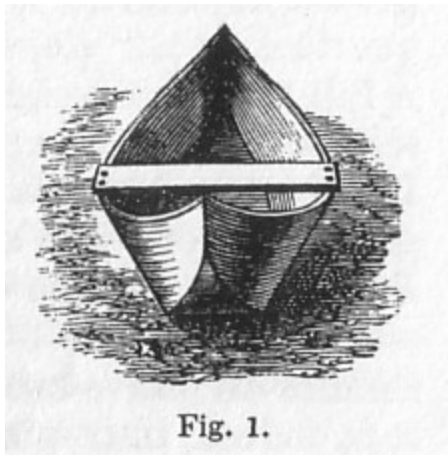
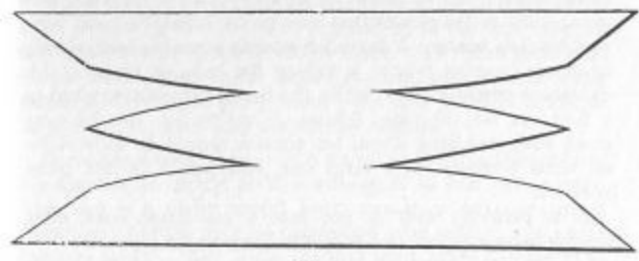

Fig. 1.
Fig. 2.
Breaks and Drags.--*Breaks.*--Every cart and wagon in Switzerland, and, indeed, in most parts of the Continent, has a break attached to it: the simplest kind of break is shown in fig. 2, which represents a cart tilted upwards. Fig 1 shows the break itself; fig. 2 explains how it is fitted on to
the cart. [Fig 1.] It will easily be understood how, by tightening the free end of the cord, the break is pressed against the wheels. The bent piece of iron shown in fig. 2, by which the bar of the break is kept in its place, may be replaced by a piece of wood, or even by a thong of leather. Every explorer's wagon should be furnished with a break.
The rafts of European rivers are usually built on shore, and launched into the water: three slides are laid for the purpose, on the sloping bank of the river; upon these are laid the four poles, secured together by their ends, which are to form the framework of the raft (fig. 2). Other poles are put in between, until the whole is complete.
Two large open gourds are nicely balanced, and fixed, bottom downwards, on a bar or yoke of light wood, 4 feet long, 4 1/2 inches wide, and 3/4 or 1 inch thick. The fisherman, or traveller, packs his gear into the gourds; launches the makara into the river, and seats himself astride the bar. He then paddles off, with help of his hands (fig. 1). When he leaves the river, he carries the makara on his back (fig. 2). The late Dr. Barth wrote to me, "A person accustomed to such sort of voyage, sits very comfortably; a stranger holds on to one of the calabashes. There is no fear of capsizing, as the
Canoe of Three Planks.--A swift, safe, and graceful little boat, with a sharp stem and stern, and with a bottom that curves upwards at both ends, can be made out of three planks. The sketch, fig. 1, is a foreshortened view of the boat, and the diagram, fig. 2, shows the shape of the planks from which it is made. The thwart or seat shown in fig. 1 is important in giving the proper inclination to the sides of the boat, for, without it, they would tend to collapse; and the bottom would be less curved at either end. If the reader will take the trouble to trace fig. 2 on a stout card, to cut it out in a single piece (cutting only half through the cardboard where the planks touch), and to fasten it into shape with pieces of gummed paper, he will understand the architecture of the boat more easily than from any description. If he wishes to build a boat he had best proceed to make as large a model in pasteboard as his materials admit, and to cut the planks to scale, according to the pattern of his model. The grace of the boat depends on the cut of its planks, just as much as the elegance of a dress does on that of its cloth. These three-plank canoes are in frequent use in Norway. Bark may be used instead of planks. If the canoe be built of five planks instead of three, a second narrow side-plank being added above each gunwale, the section of the canoe is decidedly improved.
Canoe of Reeds or Vegetable Fibre.--A canoe may be made of reeds, rushes, or the light inner bark of trees. Either of these materials is bound into three long faggots, pointed at one end: these are placed side by side and lashed together, and the result is a serviceable vessel, of the appearance fig. 1, and section as fig. 2. The Lake Titicaca, which lies far above the limit of trees, is navigated by boats made of rushes, and carrying sails woven of rushes also. Little boats are sometimes made of twigs, and are then plastered both inside and outside with clay, but they are very leaky.
together with the thick ends outwards, as in fig. 1, where AB is a lithe clean little willow-tree, and ab another similar one. They are lashed together at their taper ends.
2. Cut notches half-way through KK, at about 20 to 25 inches from each end; then turn up the notched portions, and you have stem, keel and stern, all in one piece, as in fig. 2.
Boating Gear.--*Anchors* may be made of wood weighted with stones. Fig. 1 shows the anchor used by Brazilian fishermen with their rude boat or sailing-raft already described. Fig. 2 shows another sort of anchor that is in common use in Norway.